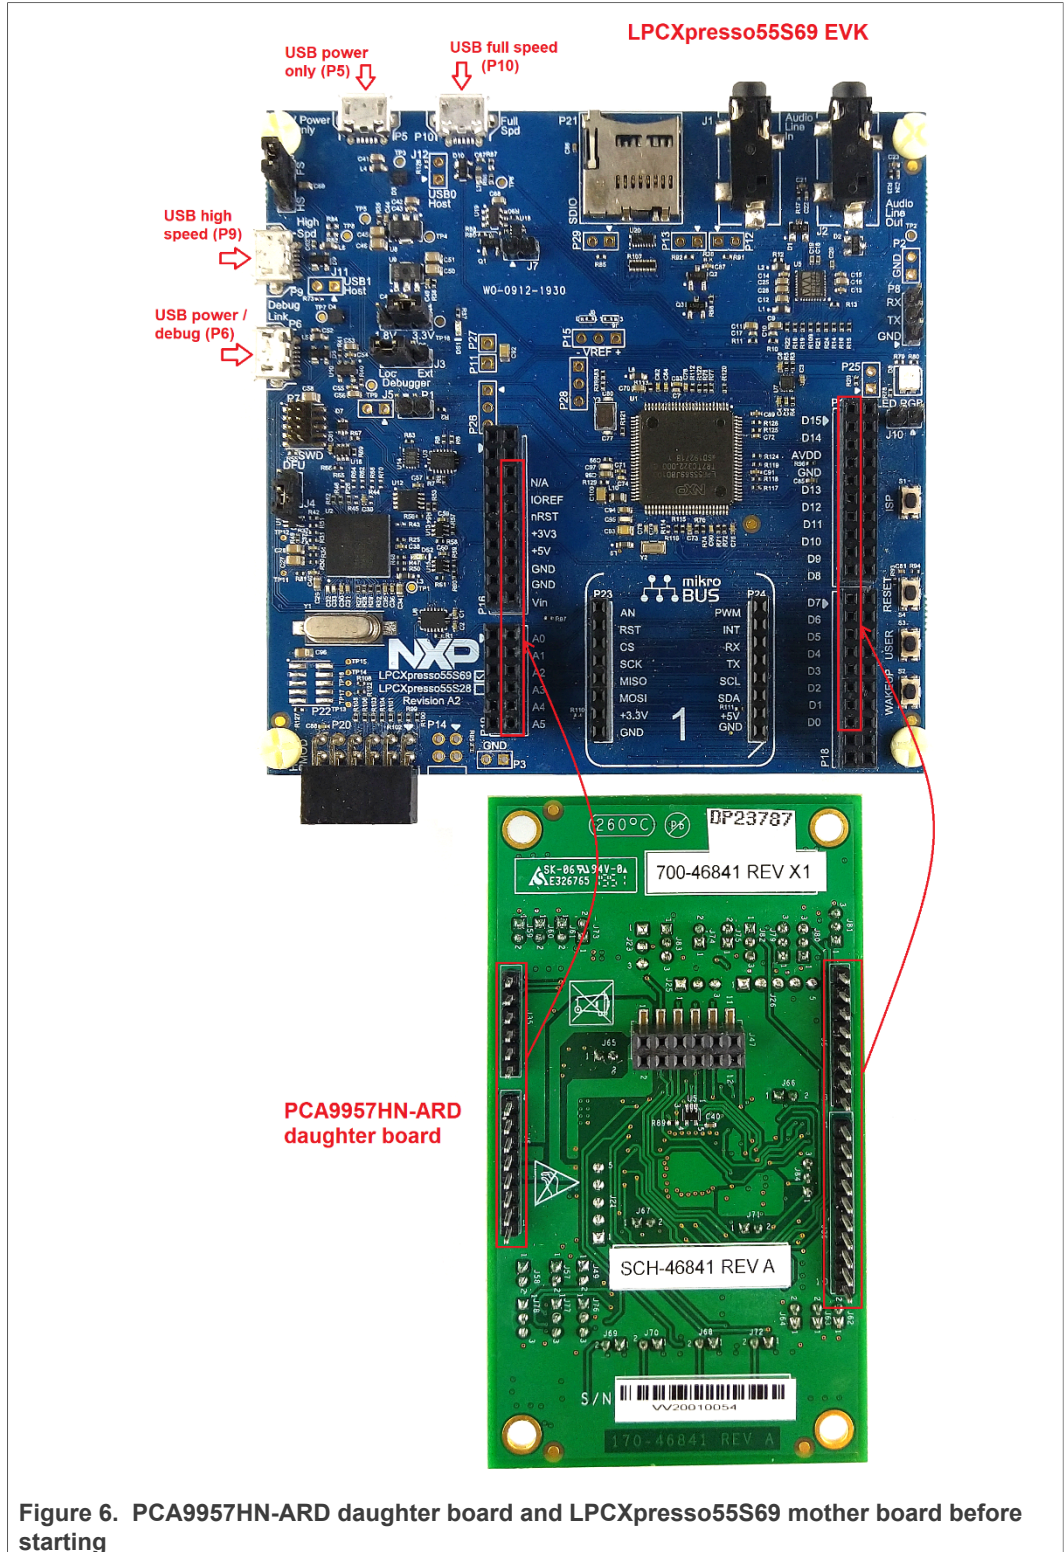

Figure 6. PCA9957HN-ARD daughter board and LPCXpresso55S69 mother board before starting
Figure 6 shows the necessary hardware involved when using the PCA9957HN-ARD board with an LPCXpresso55S69 board. This configuration consists of:
The following steps describe how to assemble, power up, program, and operate the configuration shown in Figure 6
1. Insert the PCA9957HN-ARD daughter card to P16 – P19 connectors located on LPCXpresso55S69 development board (see the marked pins of P16 – P19, Figure 6);